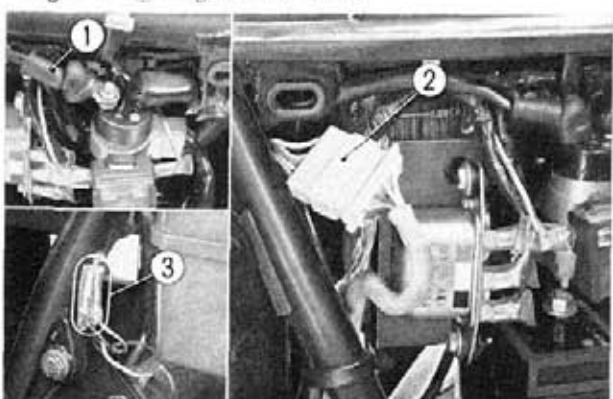

Fig. 2-5 ① Starter motor cable
12. Disconnect the starter motor cable, dynamo lead connector and the stop switch lead wire. (Fig. 2-5)